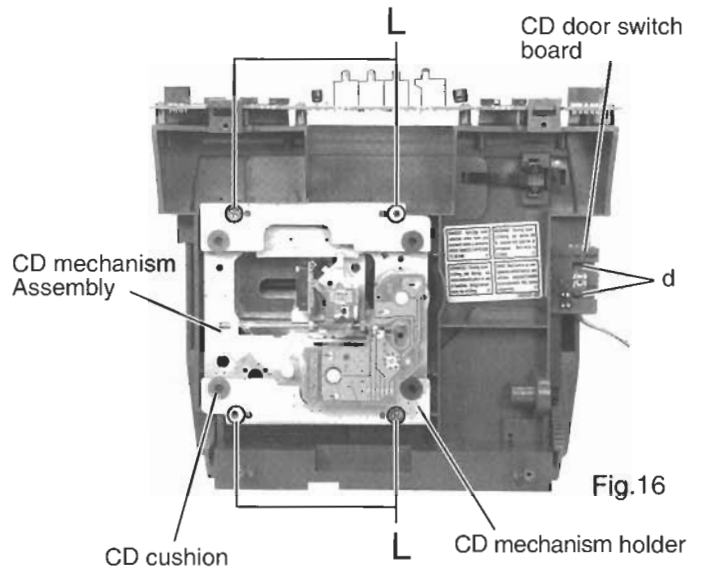

Fig.16
■ Removing the CD Door Switch Board (See Fig.16)
■ Removing the CD Mechanism Assembly (See Fig.16)